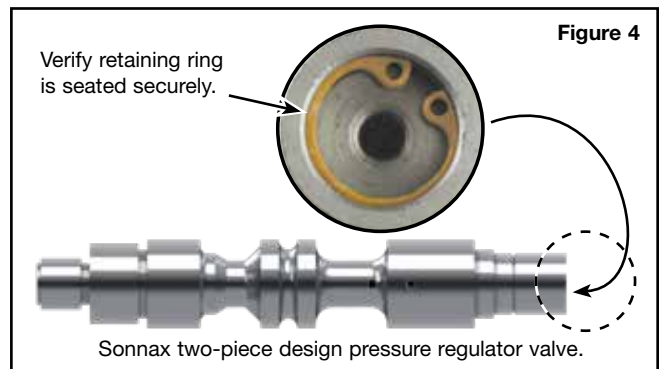

Figure 4
**NOTE:** The Sonnax pressure regulator valve is a two-piece design that is held together with a retaining ring. Before installation, verify retaining ring is seated securely (**Figure 4**).
- Adjust the pressure regulator adjusting screw so that there is a .300–.350" gap between the inside of the plates (**Figure 4**).